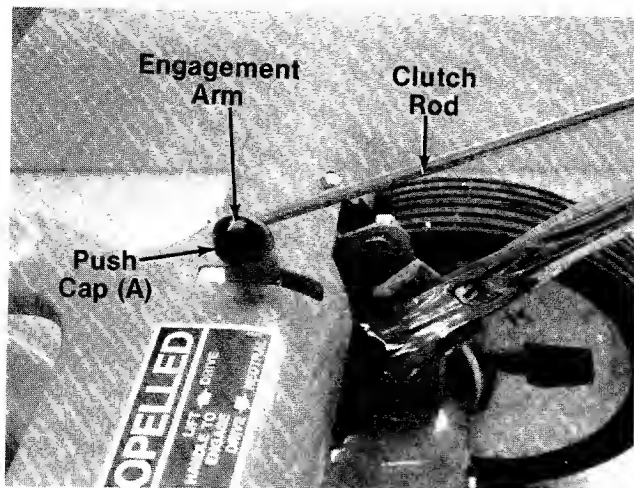

FIGURE 9.
15. Place push cap (A) in position on hooked end of clutch rod (H). Secure the push cap using a hammer or mallet.
16. Insert the threaded end of the clutch rod through the hole in the engagement arm, and place in position as shown in figure 9.